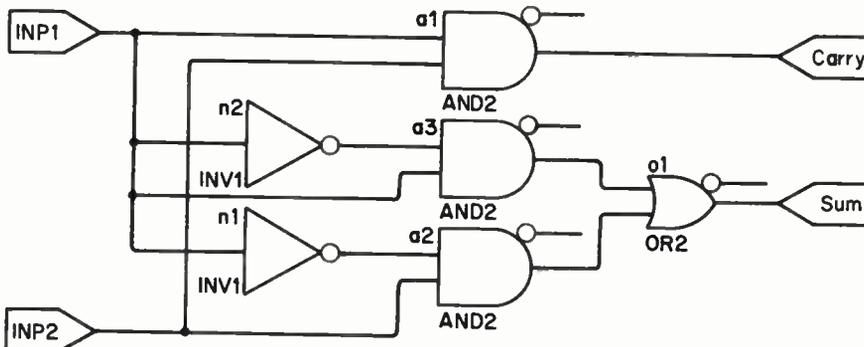

Fig. 6. Example half-adder described by Ella
**Ella.** Figure 6 is an Electronic Logic Language (Ella) network of a bit-level half-adder. The explicit Ella description of this network, called the function declaration is,